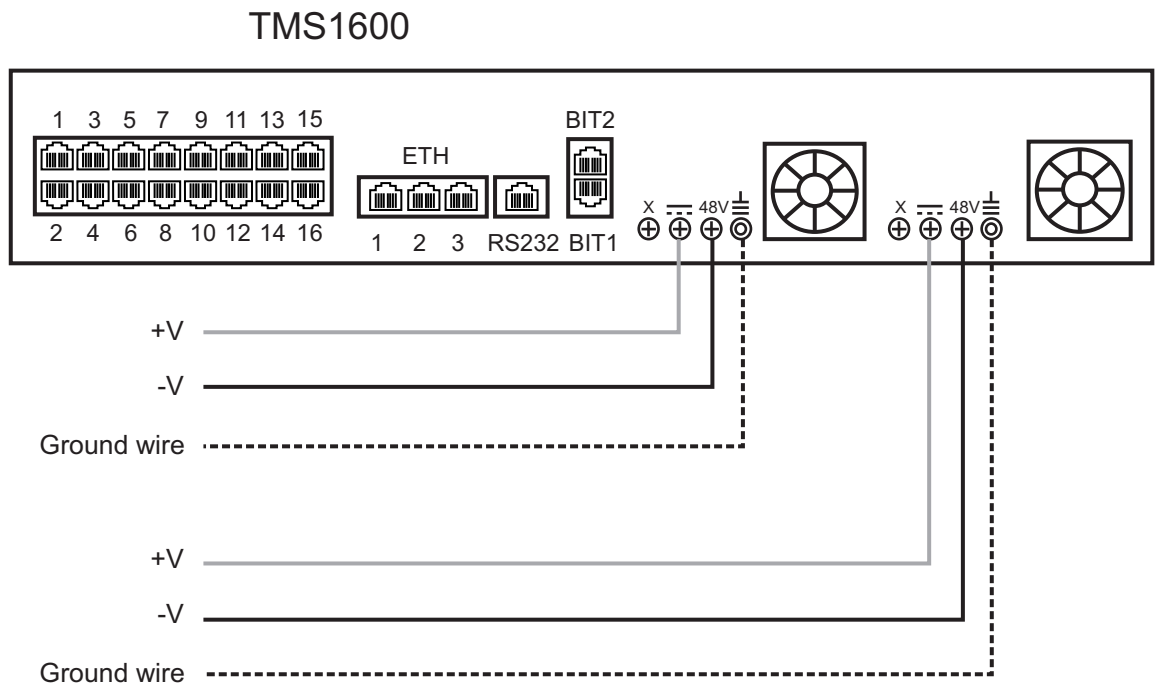

Figure 2.18 TMS1600 DC wiring diagram
1. Connect a ground wire to the ground lug located at the rear of the TMP6401, as shown in figure 2.18 on page 30.
1. Connect a ground wire to the ground lug located at the rear of the TMS1600, as shown in figure 2.18 on page 30.